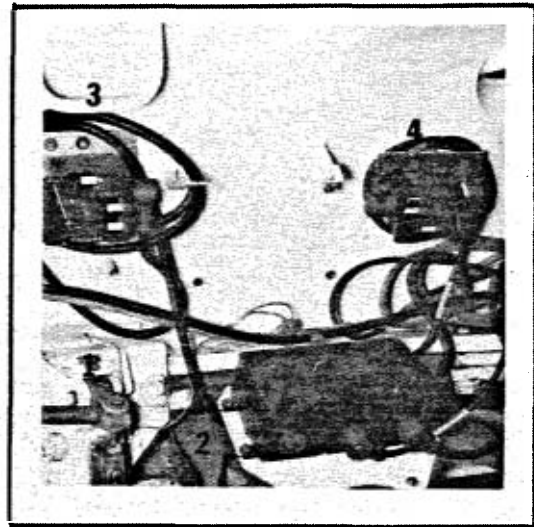

FIG. 3-15. INTERCOM
j. Radio (Fig. 3-15). For the safety of the tank crew, a US intercom system has been mounted throughout the tank. The AM 1780/VRC is located between the Tank Commander and gunner, with intercom junction boxes for all crewmen. NEVER OPERATE THE VEHICLE WITHOUT CLEAR INTERCOM COMMUNICATIONS.